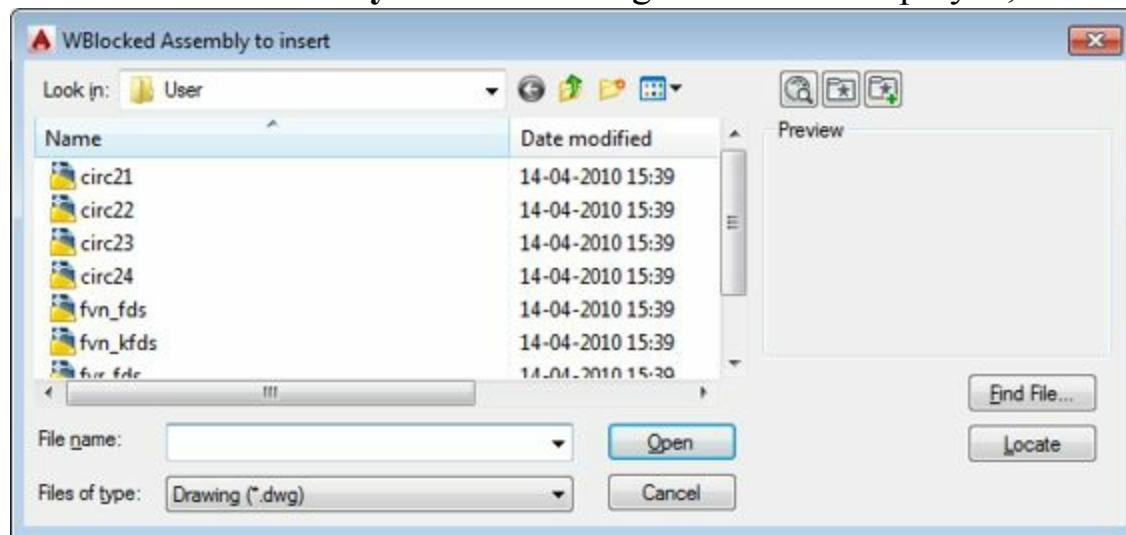

Figure-23. WBlocked Assembly to insert dialog box
- Make sure all the check boxes are selected and then click on the **OK** button from the dialog box. The **WBlocked Assembly to insert** dialog box will be displayed; refer to Figure-23.